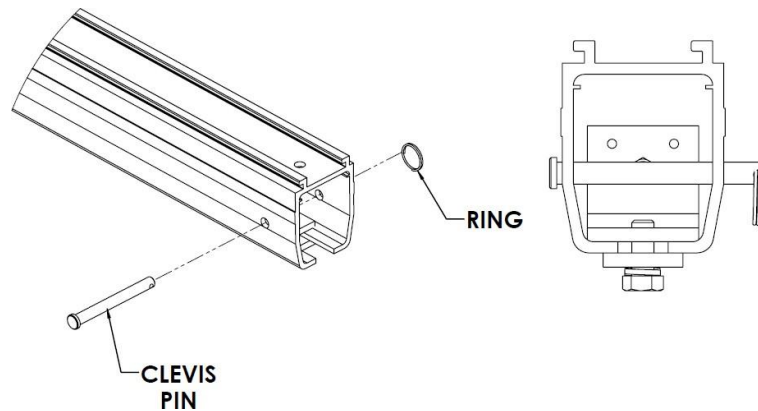

Figure 41: *Clevis Pin and Ring Installed*
- Make sure that the endstop clevis pins and rings are installed behind all endstops as shown in Figure 41.